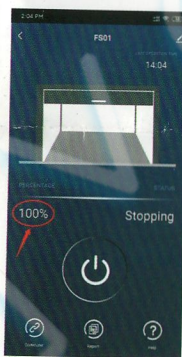

Figure 19
2. Upper limit setting: when the door is opened to the upper limit, press the wifi external device UP button LED indicator lights, the upper limit is successfully saved, the APP displays 100% (Figure 19);